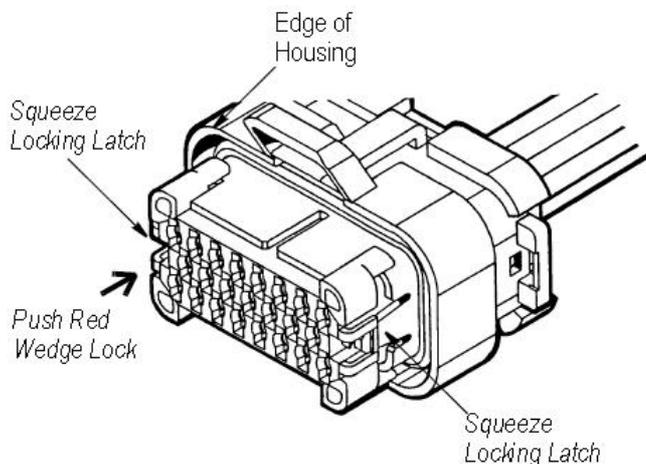

Figure 4
4. Pull wire slightly (force between 4 and 9 N [1 and 2 in.-lbs]) to ensure that the contact has engaged the retention fingers of the contact cavity. See Figure 4.